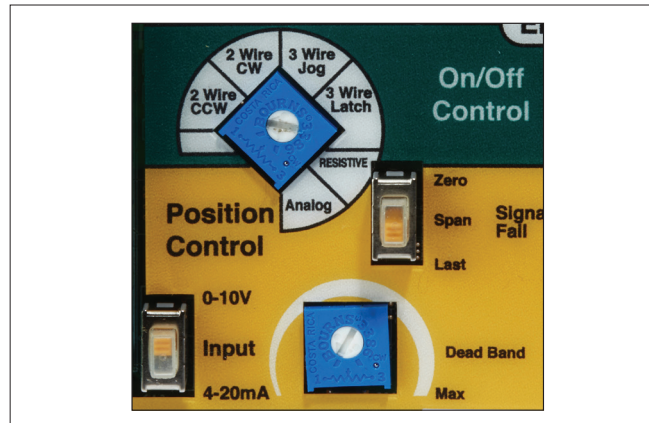

Figure 5.
The Universal Control Board can be configured for either “Two-Wire” or “Three-Wire” On/Off control, or “4-20mA Analog”, “0-10VDC Analog”, or a “Resistive” Positioner Control. (See **Figure 5** in **Section 4.3**)
6. ON/OFF CONTROL (See Figure 5)